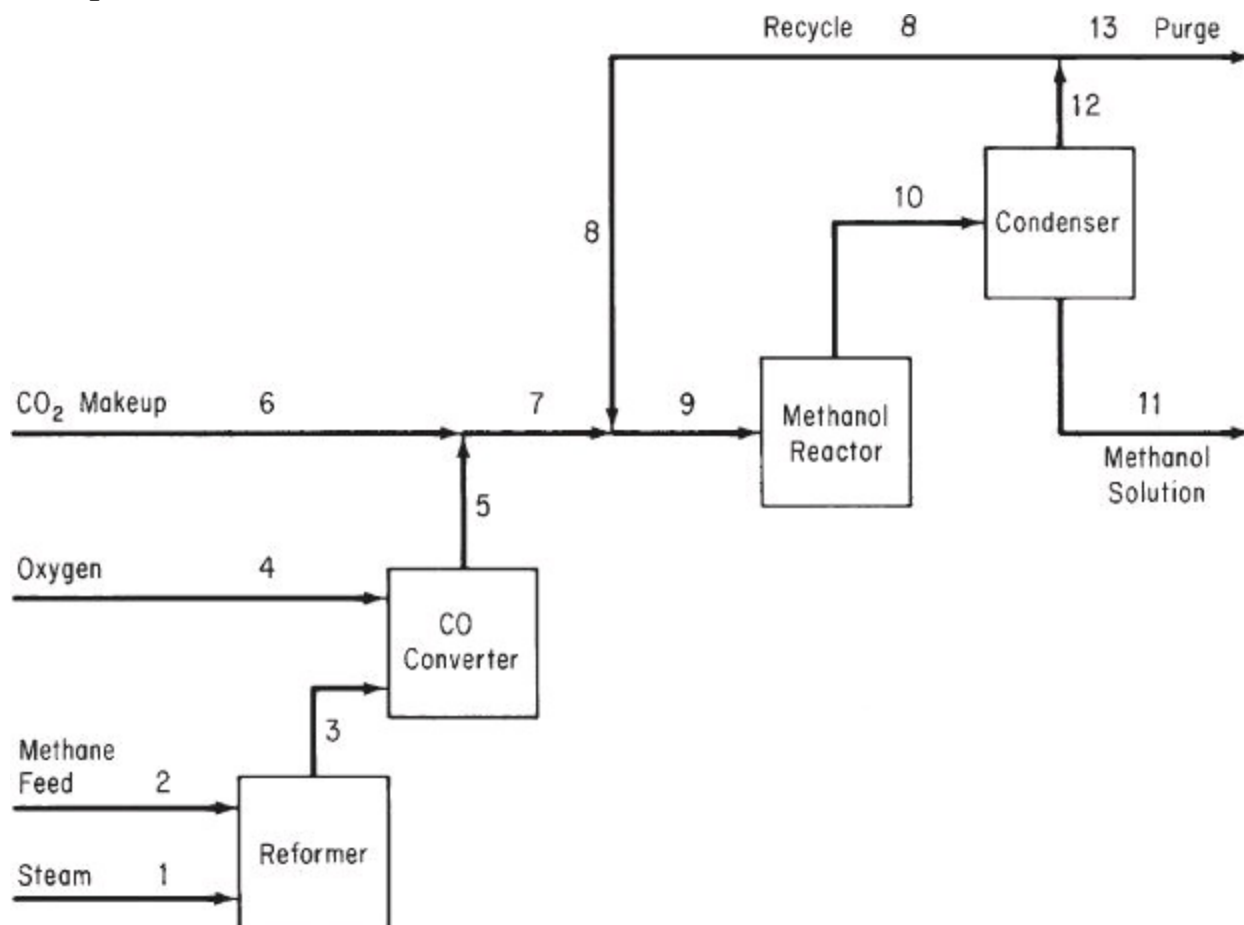

Figure P6.4.3
******6.4.3.** A process for methanol synthesis is shown in Figure P6.4.3. The pertinent chemical reactions involved are
Because the methane feed contains 1% nitrogen as an impurity, a portion of the recycle stream must be purged as shown in Figure P6.4.3 to prevent the accumulation of nitrogen in the system. The purge stream analyzes 5% nitrogen.